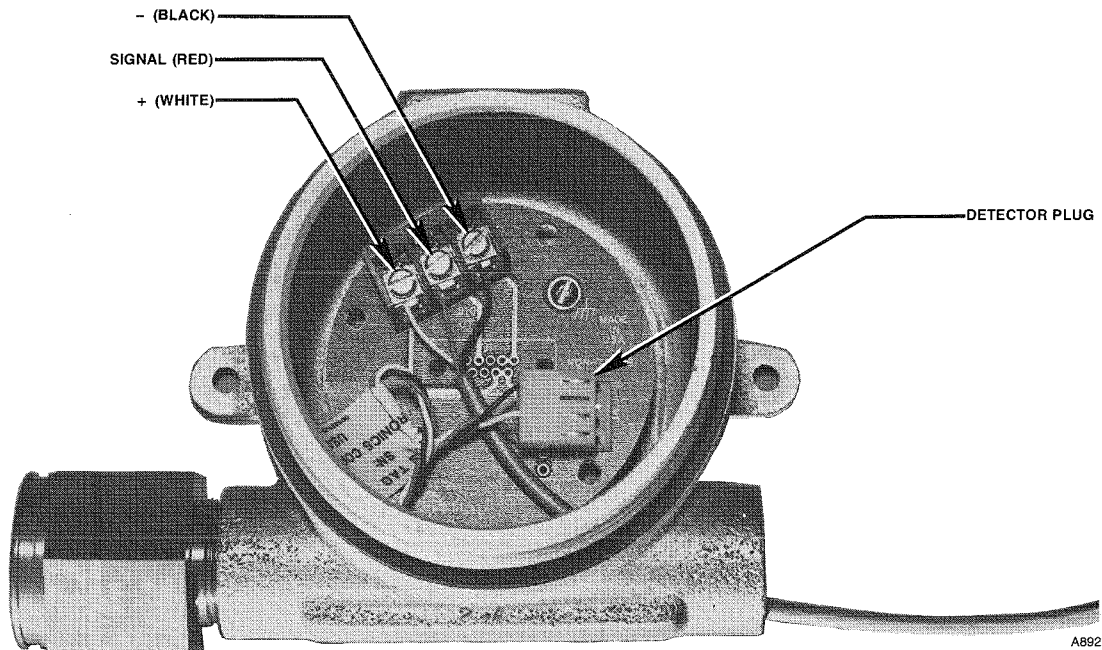

Figure 6—Junction Box
2. Attach the detector to the junction box and plug it in as illustrated in Figure 6. Note that the plug is keyed to aid in correct installation.